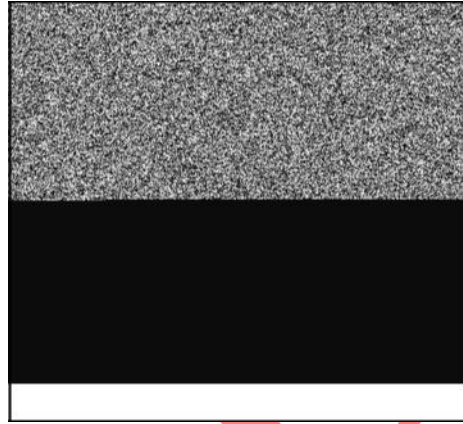

Figure 19
6. Place rocker arms and rocker balls on rocker arm studs (Figure 19). Install rocker arm screws and/or lock nuts on studs and tighten until there is zero clearance between the valve stem caps and the rocker arms.